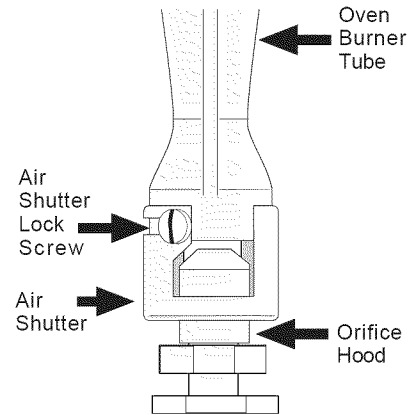

Fig. 7
- Turn off oven and allow to cool before adjusting air shutter. To adjust loosen Air Shutter Lock Screw (See Fig. 7), reposition air shutter to FULL OPEN and tighten Air Shutter Lock Screw. Retest the burner by repeating step "d" above. When the burner flame is a distinct blue color burning steady, the air shutter is adjusted correctly.